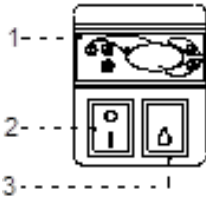

Fig.8 Control panel
- Turn on the main switch Fig.8/2 (p.5), which activates the thermostat, and then aggregate of the device
- Set the temperature on thermostat control panel Fig.8/1 (p.5) (thermostat service details on p.10 or 11)
- Turn on the lighting switch Fig.8/3 (p.5)